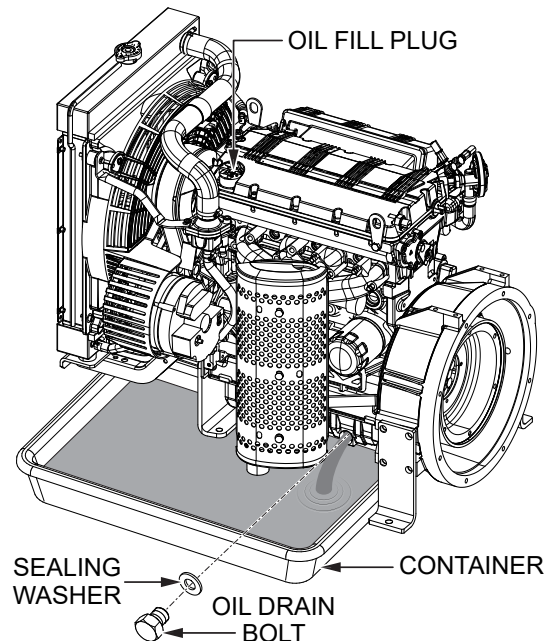

Figure 14. Engine Oil Replacement
1. Remove the engine oil drain bolt and sealing washer, and allow the oil to drain into a suitable container (Figure 14).
3. Remove the oil plug (Figure 14) and refill the engine oil as recommended in Table 4. **DO NOT** overfill. See Table 2 for engine oil capacity.